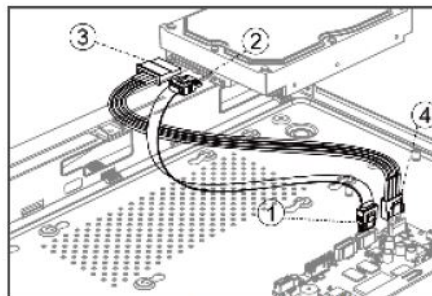

Figure 2-2 Connect Cable
STEP 2 Connect the data cable and power cable. Refer to Figure 2-2.